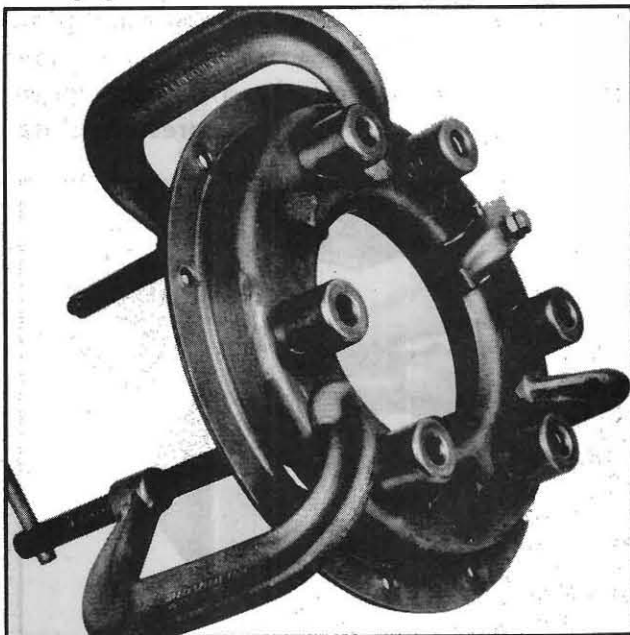

Fig. 123
3. Compress the assembly until the release levers can be installed. Make sure that the spring on the clutch lever is hooked under the clutch cover, see Fig.123. This spring keeps the lever from rattling when the clutch is engaged.